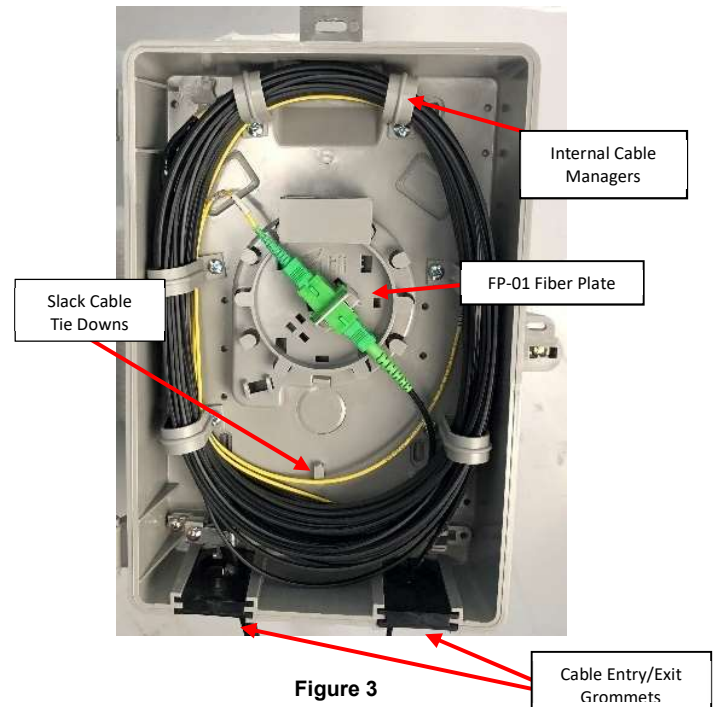

Figure 3
1. Punch a hole through the left cable entry grommet and guide the connectorized feeder cable through bringing enough slack into the unit to make a couple of clockwise loops around the perimeter of the enclosure under internal cable managers (Figure 3).
3. Insert feeder cable connector into the provided adapter located on the FP01 Fiber Plate in the center of the enclosure (figure 3).